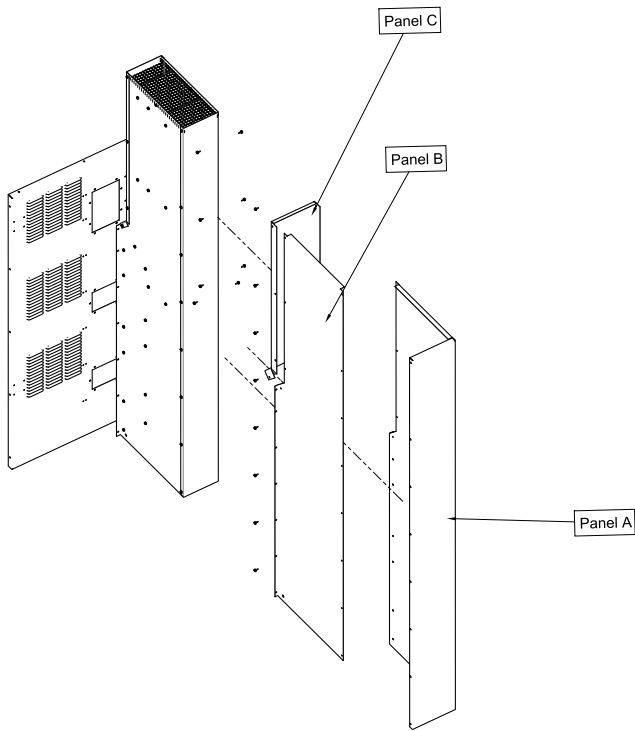

**FIGURE 7 - VENT AND COMBUSTION AIR HOODS**
**NOTE:** All the hoods and hardware are shipped within the evaporator section. Each hood must be properly attached to the furnace doors to assure proper operation and compliance with CSA/ETL safety certification. (Refer to Figure 7.)